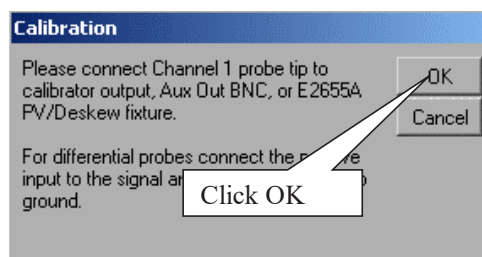

Figure 12 Calibration Window.
- 6 Referring to Figure 12 shown below, perform the following steps: